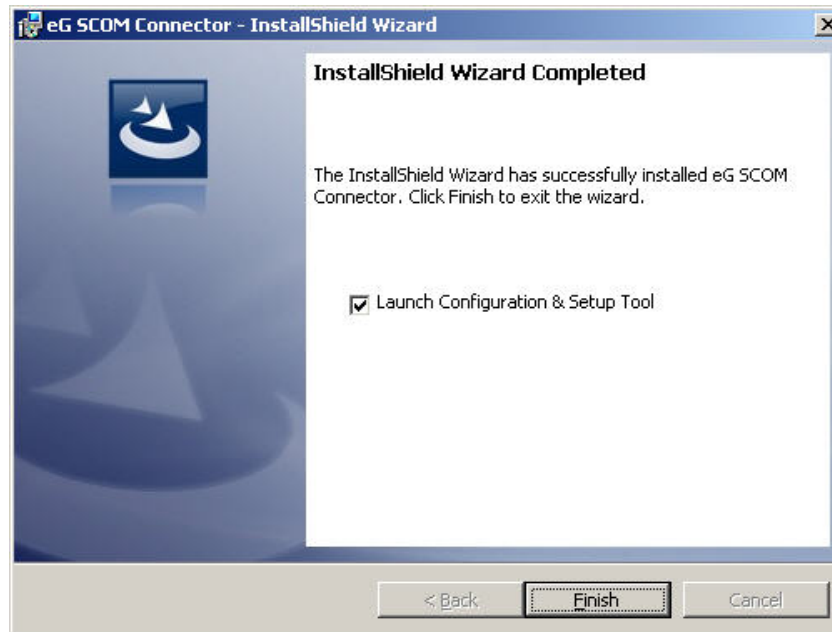

Figure 3.7: Finishing the installation
10. When installation ends, Figure 3.7 will appear. Click **Finish** to exit the wizard.
If the **Launch Configuration & Setup Tool** check box is selected in Figure 3.7, then finishing the installation will automatically launch the eG SCOM Connector configuration tool. If this check box is deselected, then, you will have to manually launch the configuration tool by following the menu sequence: *Start -> Programs -> eG SCOM Connector*. Either way, once the tool is launched, proceed to configure the connector using the steps discussed below: